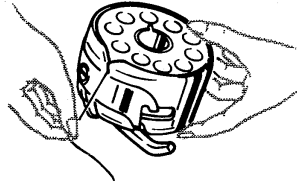
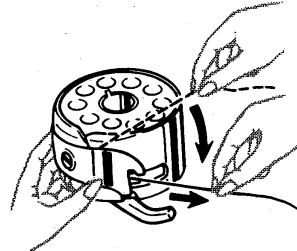

Fig. 8
Fig. 9
2. Pull thread into notch, (Fig. 8), draw it under tension spring, and into slot. Allow about three inches of thread to hang freely from bobbin case, Fig. 9.